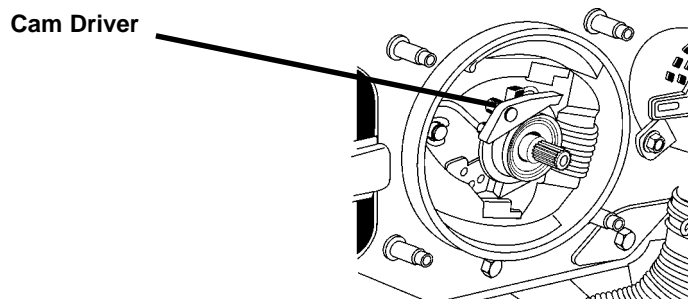

Fig. 3-33
4. Rotate the cam driver counter-clockwise while pulling the brake assembly out. (Fig. 3-33)